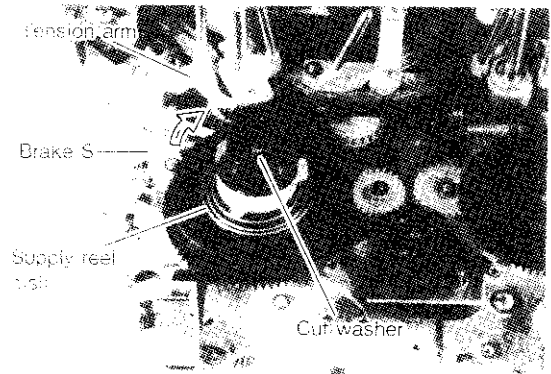

Fig.3-11-1
- (1) Remove the cassette housing.
- (2) Take off the cut washer (Fig. 3-11-1) which is fixing the supply reel disk.
- (3) Take the reel disk off the main plate by moving the brake S in arrow direction.